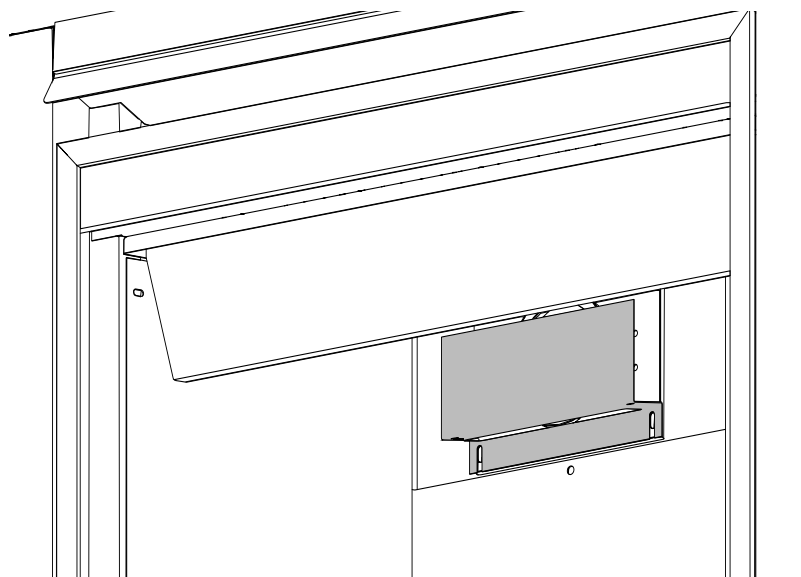

**Fig. 3**
- Install the 7" (177mm) collar assembly, complete with gasket, onto the rear panel around the 4" (102mm) collar with the screws provided (**Fig. 3**).